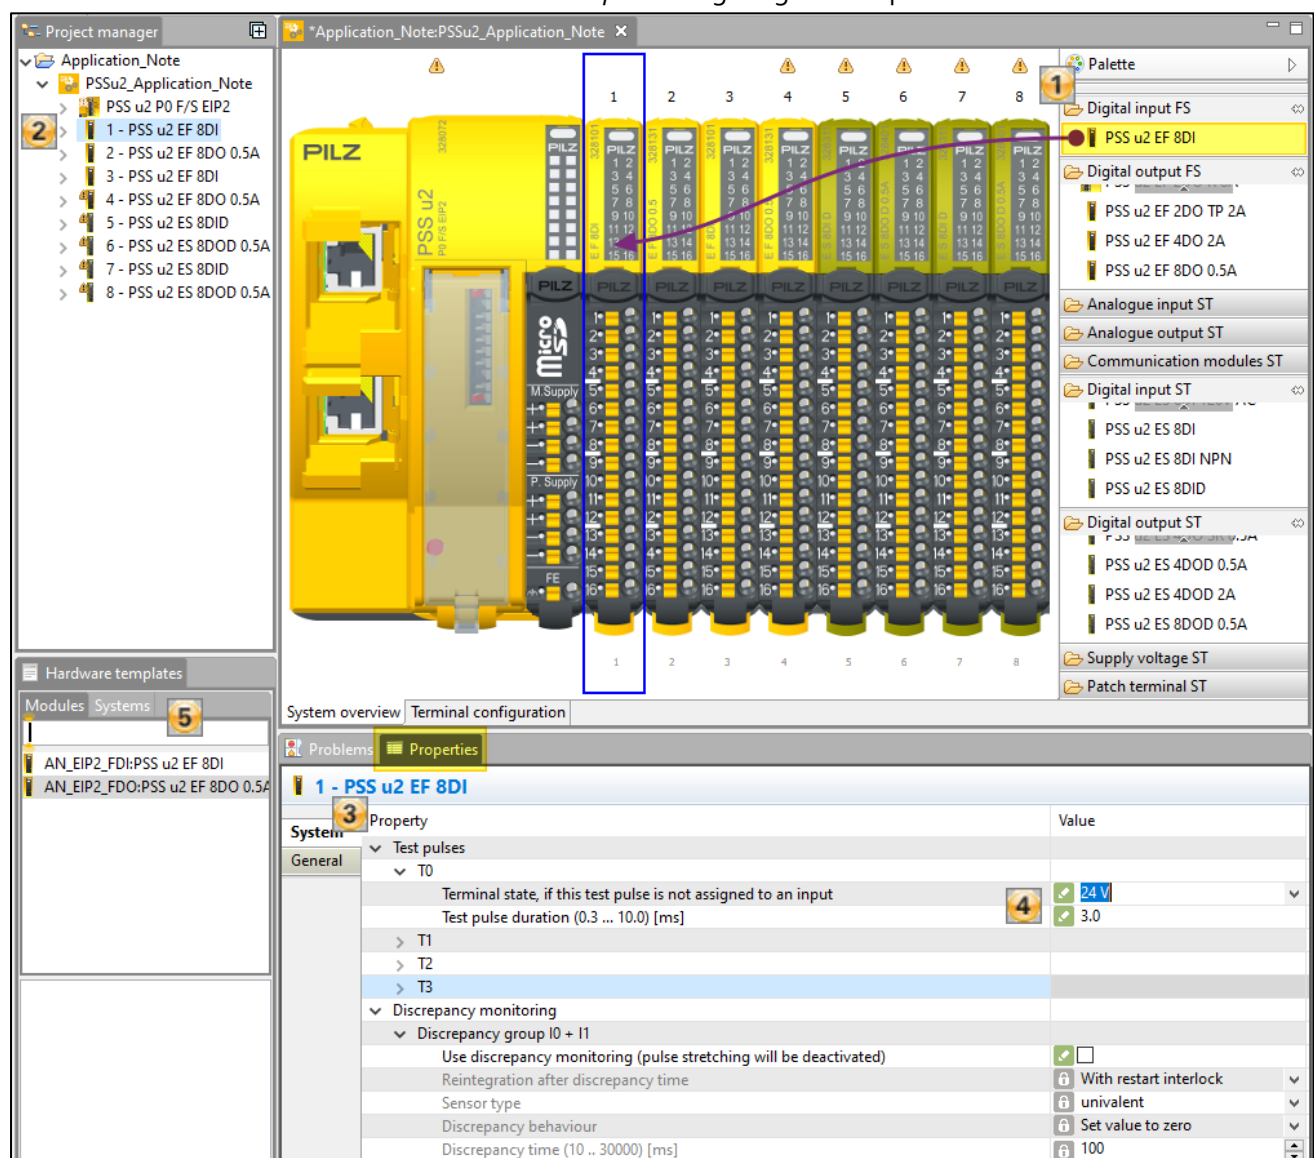

Figure 15: PASconfig – Create a new project » Select the needed modules (Part 6)
- Figure 15: PASconfig – Create a new project » Select the needed modules and following hints.
Note on the Figure 15 from the previous page: